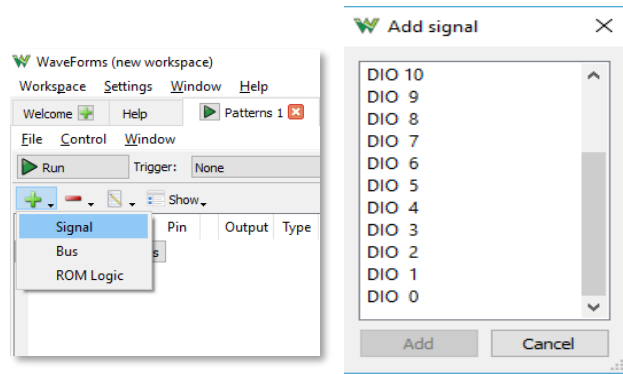

Figure 5. Adding a signal in WaveForms Digital Input mode
- i. Add → Signal → select DIO 0, as shown in Figure 5